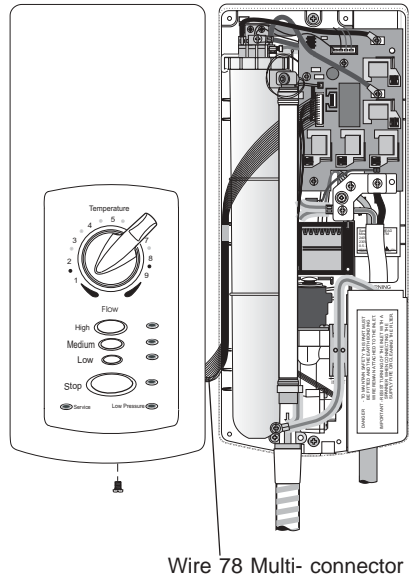

Figure 4
- 3.1.2. **Caution!** The cover is connected to the case by wire 78 Multi-connector, which should not be strained when carrying out the next instruction (refer to Figure 4).